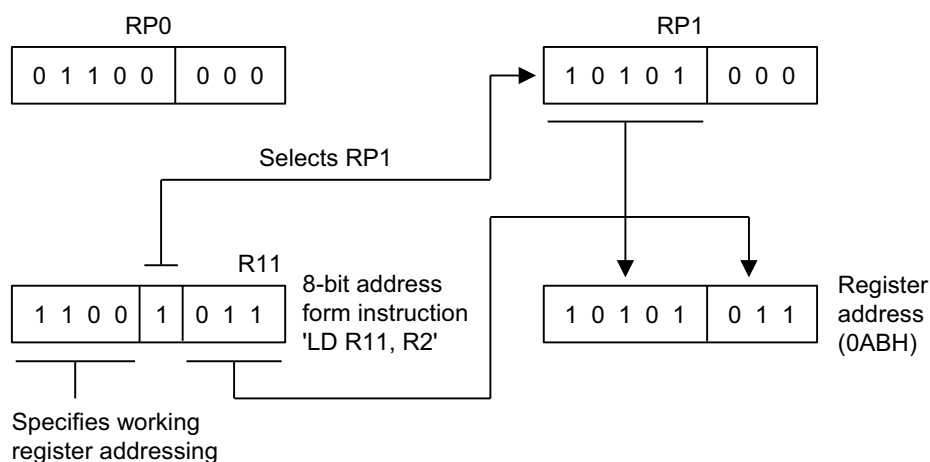

Figure 27. 8-Bit Working Register Addressing Example
Figure 27 shows an example of 8-bit working register addressing. The four high-order bits of the instruction address (1100b) specify 8-bit working register addressing. Bit 4 (1) selects RP1, and the five high-order bits in RP1 (10101b) become the five high-order bits of the register address. The three low-order bits of the register address (011) are provided by the three low-order bits of the 8-bit instruction address. The five-address bits from RP1